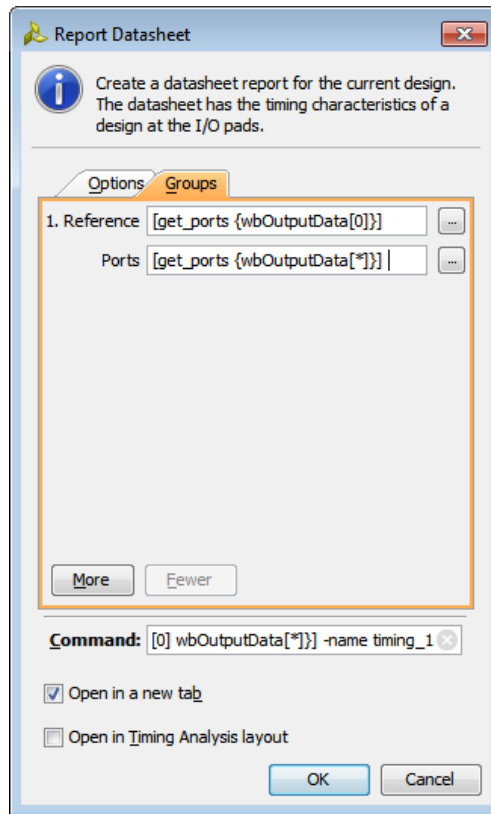

Figure 34: Report DataSheet
2. Select the **Groups** tab in the Report Datasheet dialog box, as seen in Figure 34, and enter the following: